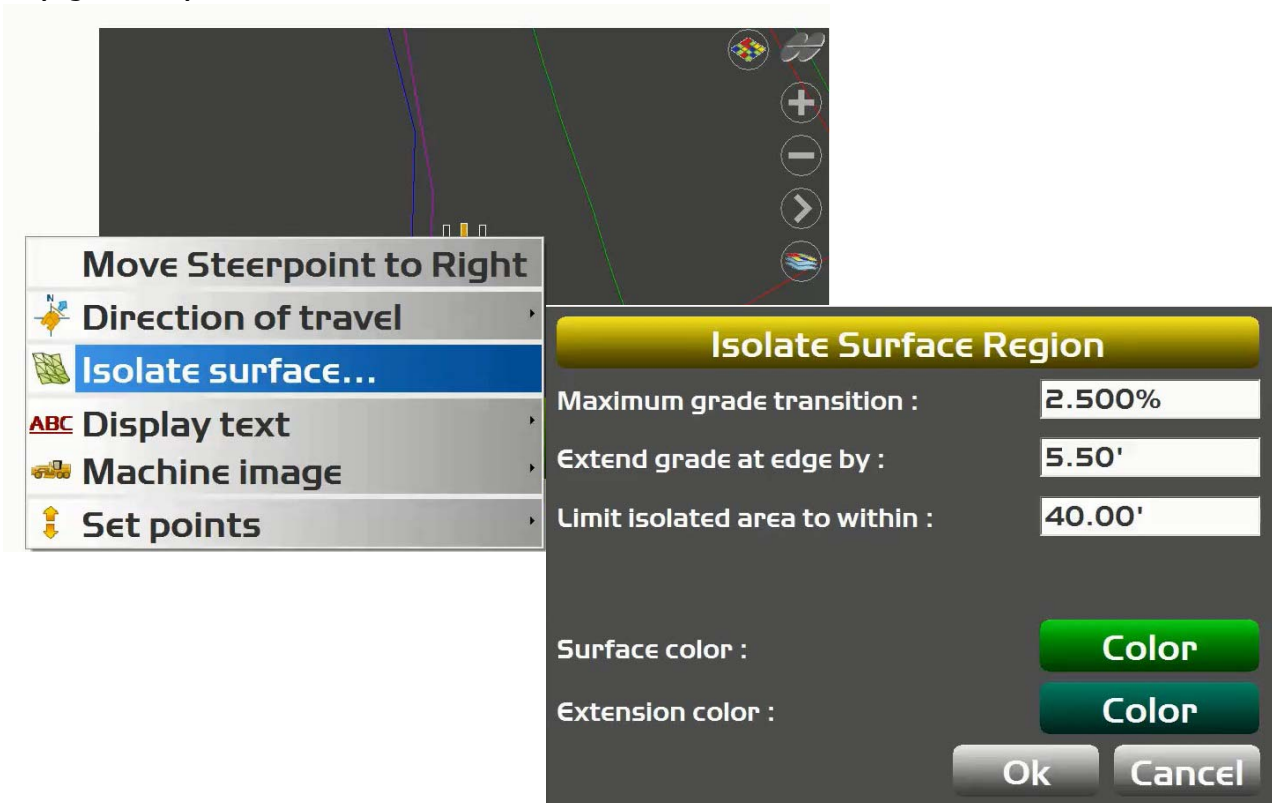

Figure 118: Isolate Surface Region Screen
2. Select **Isolate surface** from the context menu. The **Isolate Surface Region** screen appears (Figure 118).